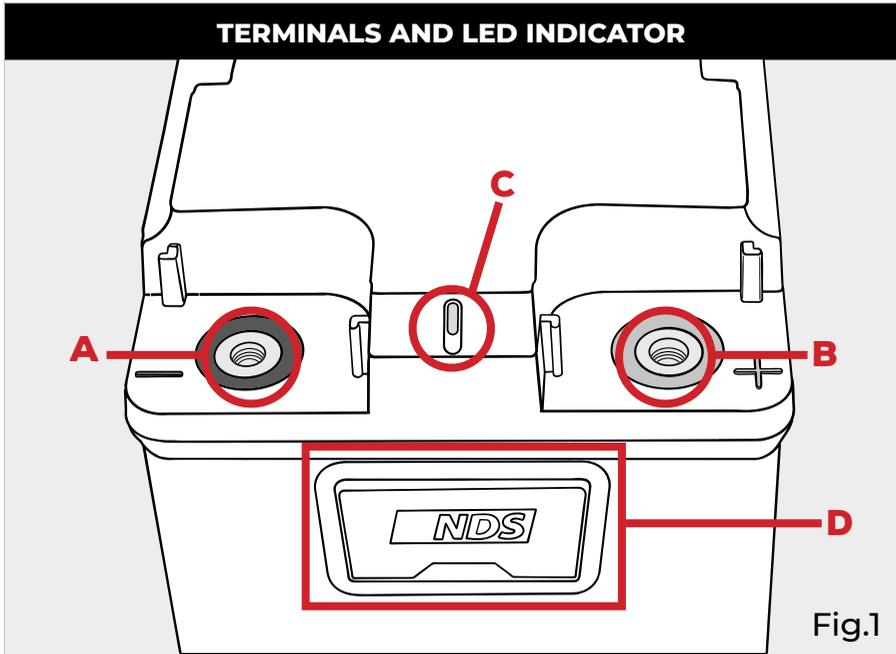

Fig.1
3. Connect the negative (Fig.1 - Ref. A) and positive (Fig.1 - Ref. B) terminals to the system. The terminals have an M8 screw hole (head 13mm), use M8 Terminals Bolt Hole and cables of suitable cross section.
The battery will be active when the LED indicator (Fig. 1 - Ref. C) lights up.
- **Switching off battery, leaving Bluetooth on:** with the battery active, press and hold the ON/OFF button for 4 seconds until the LED (Fig.1 - Ref. C) flashes blue. Release the button.